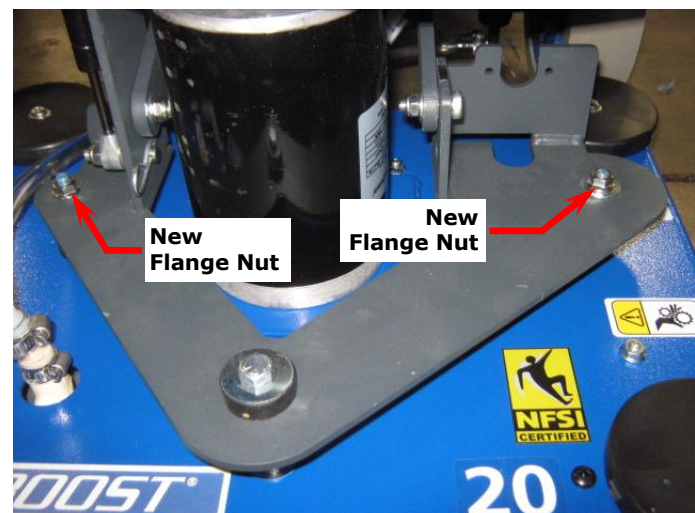

Figure 19 – Scrub Deck Assembled to Mounting Bracket (20" Deck shown)
- e. Locknut, p/n 920110, was replaced with a flange nut, p/n 81211A, to further reduce the potential of twisting the isolator during installation (see Figure 19). The upper isolator on the 20" machines was revised. Refer to TSBCL2010-21 for details.